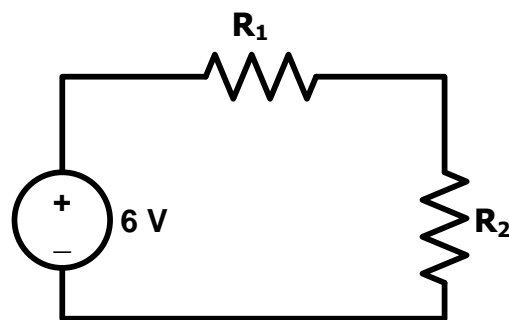

Figure 12: The circuit for Part A.
- 3) Connect the circuit in **Figure 12**.